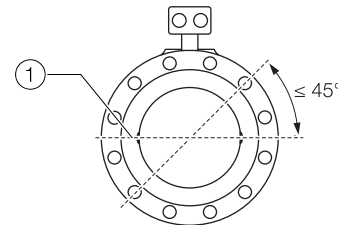

Figure 5 Orientation of the electrode axis
The electrode axis ① should be horizontal if at all possible or no more than 45° from horizontal as shown in Fig. 5.